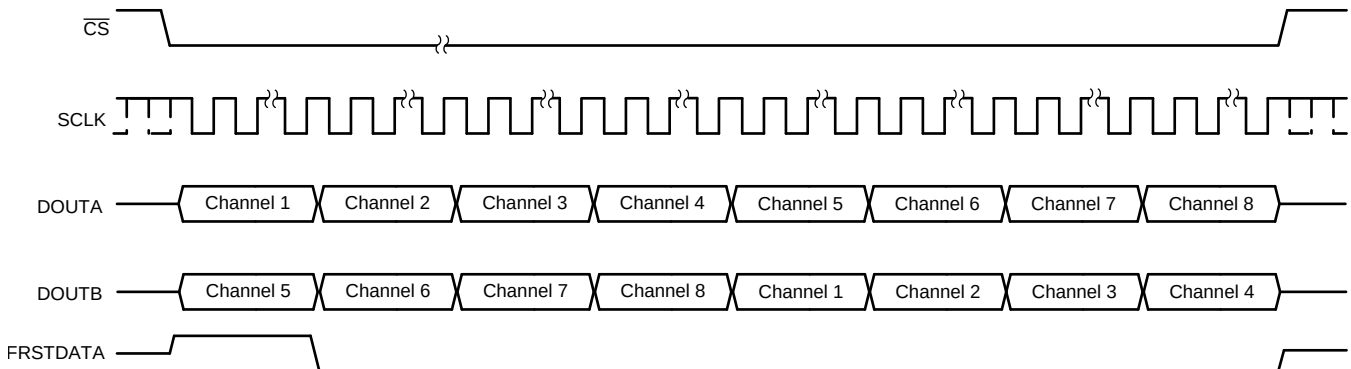

Figure 69. Data Read Back in the Serial Interface Using Either DOUTA or DOUTB Timing Diagram
$\overline{CS}$ pulse or each group of 18 SCLK cycles can be individually framed by the $\overline{CS}$ signal. The primary disadvantage of using just one data line for reading conversion data is that the throughput is reduced if a data read operation is performed after conversion. Figure 69 shows this operation.
- Alternatively, only DOUTB can be used for reading the conversion data from all channels. In this case, everything else remains the same and the output bit stream contains data for all channels in the following order: channels 5, 6, 7, 8, 1, 2, 3, and 4. Figure 69 shows this operation.